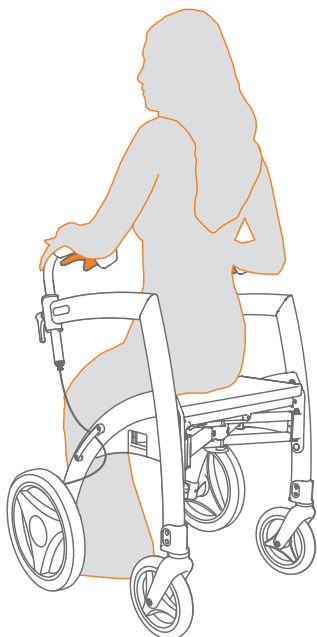

Figure 23: Sitting on the rollator seat.
- b. Sit down on the rollator seat from the rear (**Figure 23**). Always ensure that the Rollz Motion walker is in the parking position.